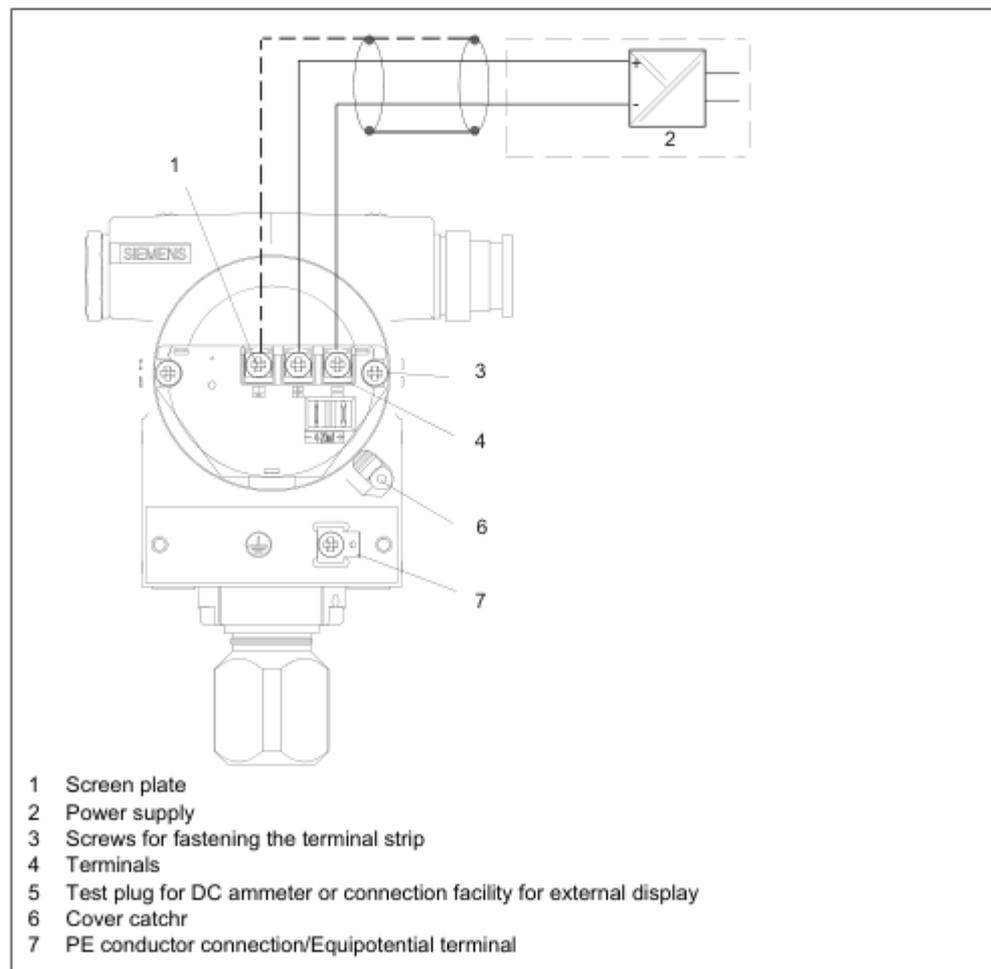

Figure 35 Electrical connection, schematic diagram
3. Connect the wires to the "+" and "-" terminals (Figure 35, page 90). Despite the markings, the polarity is not important.